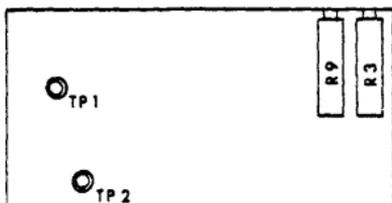

FIGURE 3
- Using a DVM, connect the probes to TP24 (ground) and TP1 (on the EOT/BOT amp board). See Figure 3.